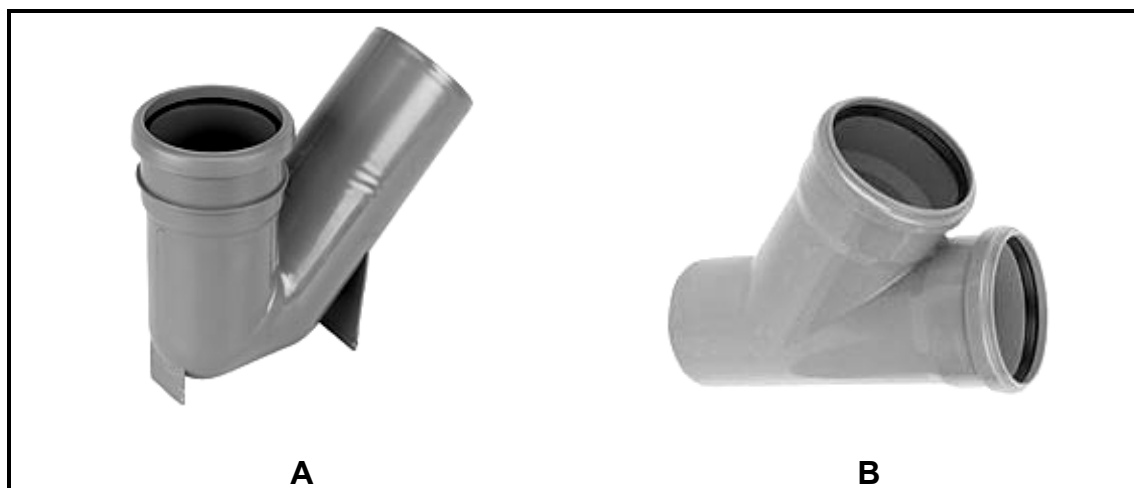

FIGURE 3.9
- 3.9 FIGURE 3.9 below shows two drain fittings (**A** and **B**).
- Identify drain fittings **A** and **B** in FIGURE 3.9. (2)